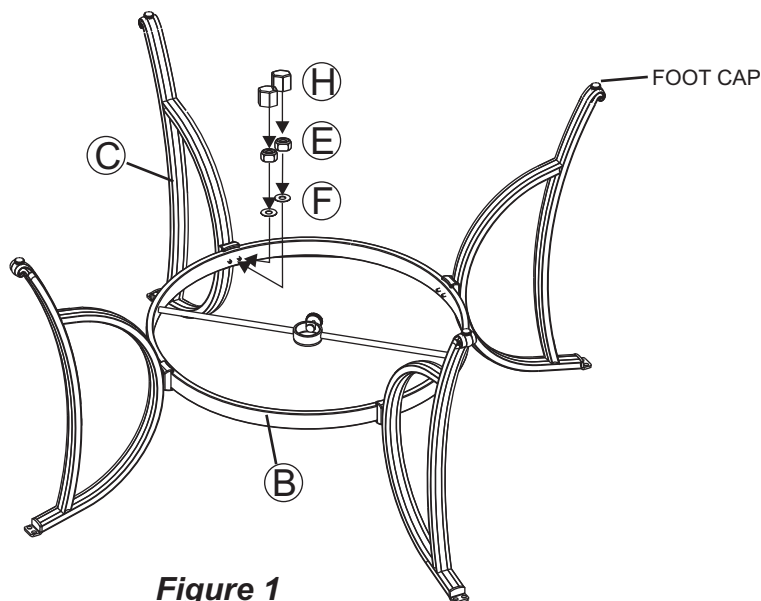

Figure 1
1 Important: We recommend 2 people work together to assemble the chair. Note the arrow labels on the "U" bar and the rocker assembly. Also note the horseshoe shape of the rocker plate. Point the open end of the horseshoe away from you. The arrows on the rocker assembly should be pointing towards you. Set the chair frame on the rocker assembly with front of the seat facing you and the arrows on the "U" bar pointing towards you as shown in *Figure 1*. This is very important for a safe, balanced rocking motion. **If chair frame has been properly positioned on the rocker assembly, all arrows on the "U" bar and rocker assembly will be pointing in the same direction.**
- 1 Attach a leg to the leg connector bracket by carefully guiding the bolts already in place on the table legs (each leg has two bolts) through the holes in the leg connector bracket. Add a washer and a nut to the end of each bolt as shown in **Figure 1**. **Hand tighten only**. Repeat on the other three legs.